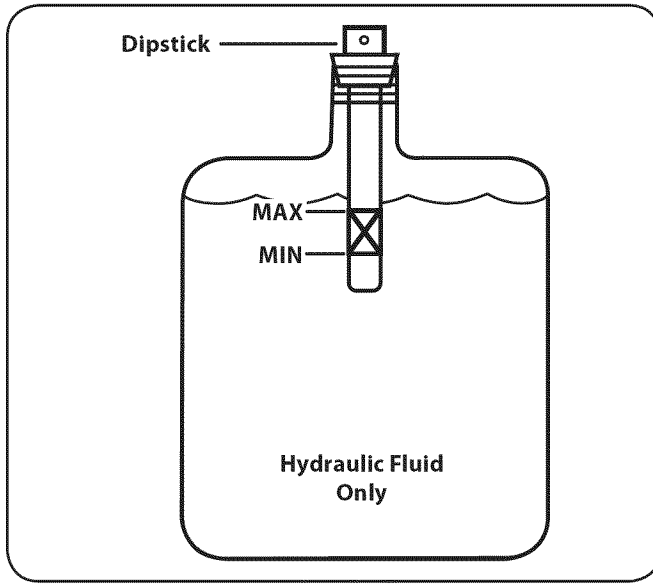

Figure 6-2
- Refill the reservoir within range marked on the dipstick. See Fig. 6-2.